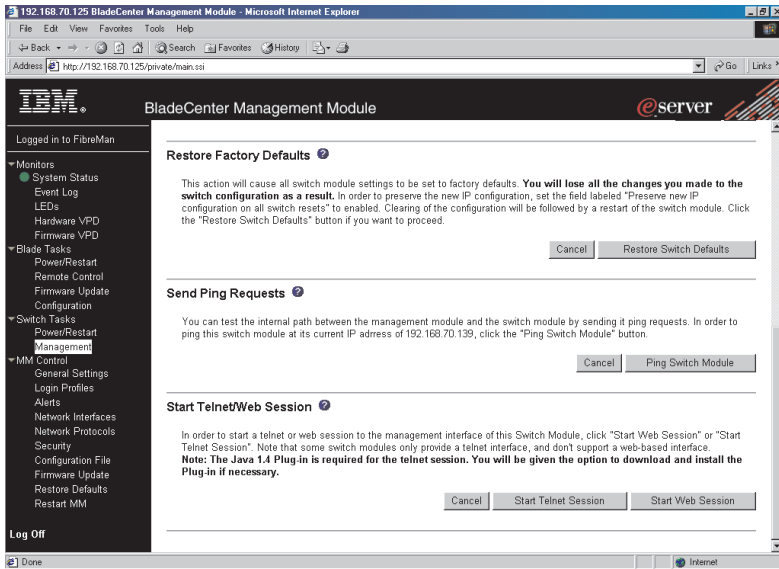

Figure 7. Switch Management window - advanced
7. Scroll down and click **Advanced Switch Management**. A window similar to the one in Figure 7 on page 33 opens.